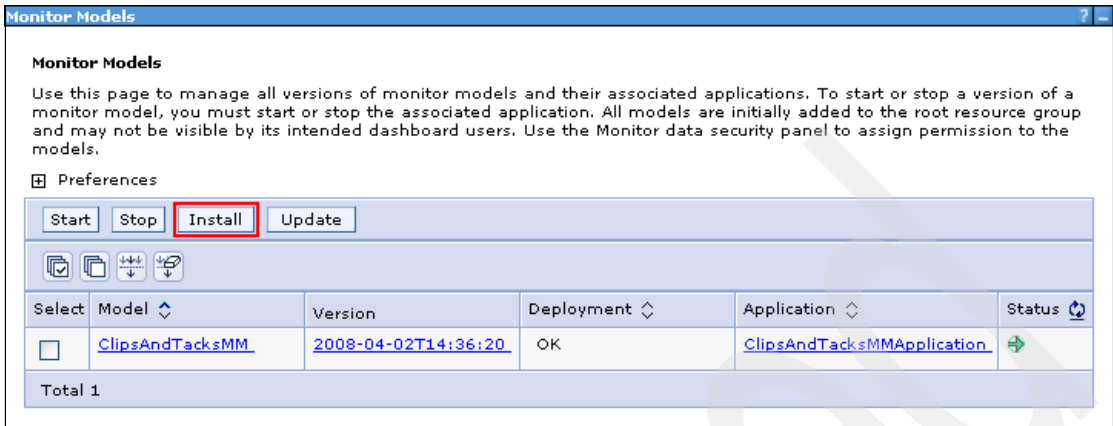

Figure A-5 Installing the GlobalHTMM monitor model
2. In the Monitor Models panel (Figure A-5), click **Install**.